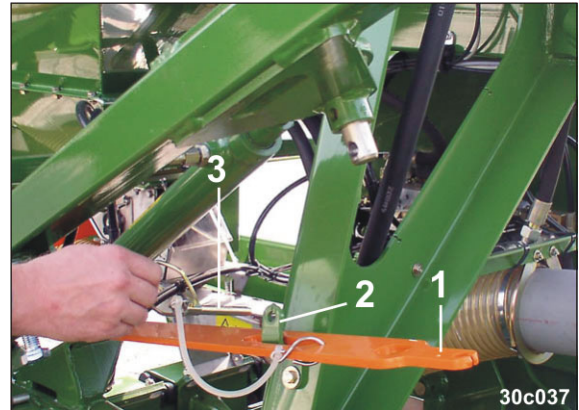

Fig. 188
2. Fit the lug (Fig. 188/1) on the clamp (Fig. 188/2) and secure with the clip pin (Fig. 188/3).